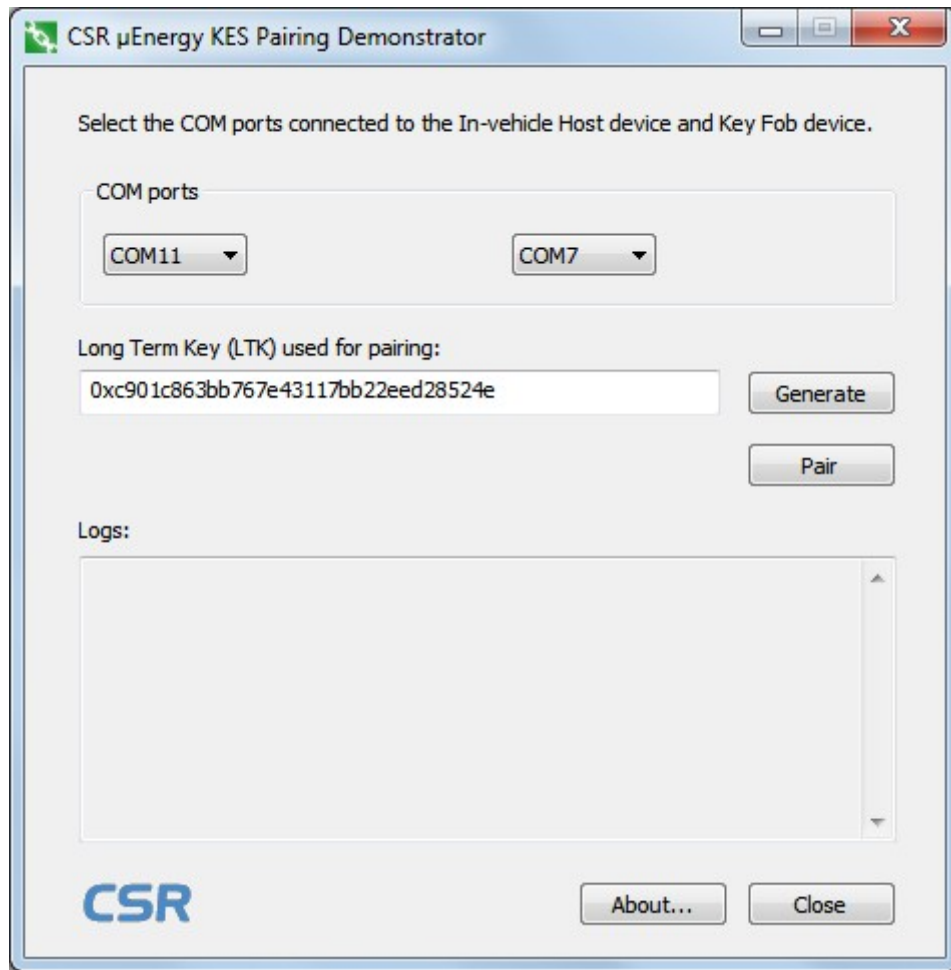

Figure 3.8: Enter or Generate the Long Term Key (LTK)
7. Press the **Generate** button to use a 128-bit randomly generated LTK or manually enter the LTK (hexadecimal format), see Figure 3.8: